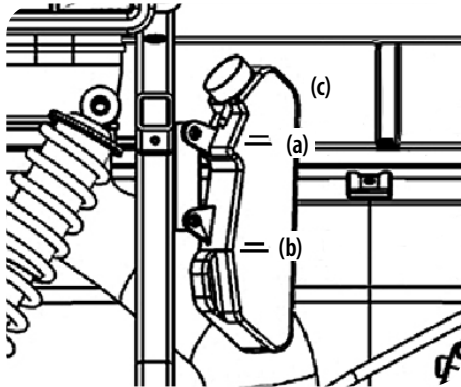

Figure 5-13
- Check to see that the coolant level is between the FULL (a) and LOW (b) marks of recovery tank (c). See Figure 5-13.